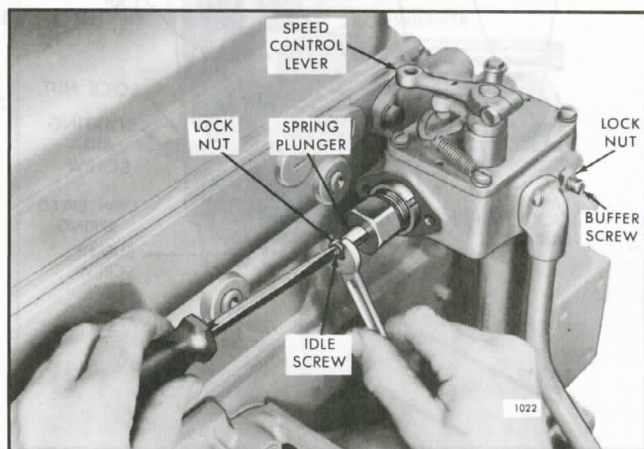

Fig. 9 - Adjusting Engine Idle Speed
2. With the engine at normal operating temperature and with the buffer screw (Fig. 9) backed out to avoid contact with the differential lever, turn the idle speed adjusting screw until the engine is operating at approximately 15 rpm below the recommended idle speed.
1. With the engine running at normal operating temperature, turn the buffer screw (Fig. 9) in so it contacts the differential lever as lightly as possible and still eliminates engine roll.